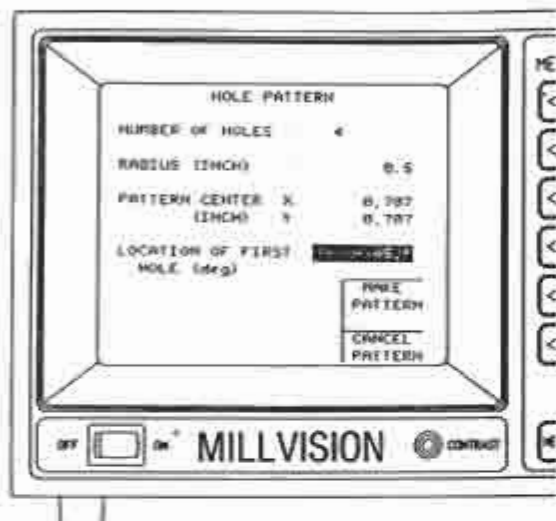

Figure 41b. Hole Pattern 2.
- 9) Press the **HOLE PTRN** key and enter the information for hole pattern 2 (Figure 41b).